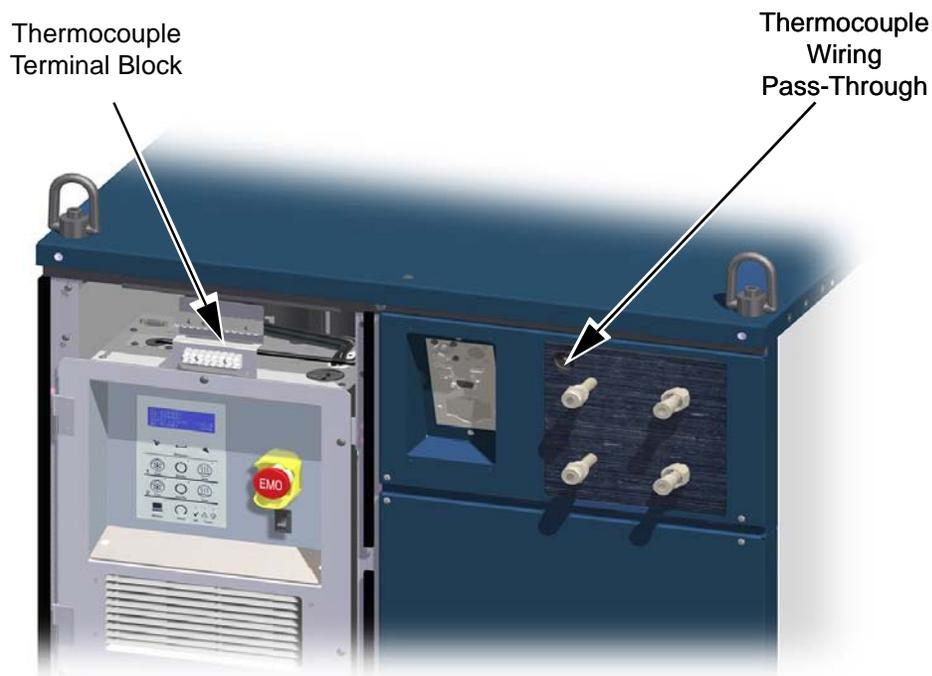

Figure 4-29: Location of Low Voltage Box and Thermocouple Terminals
1. Locate the low voltage box on the refrigeration unit and remove the terminal access cover. See Figure 4-29.
3. Locate the external thermocouple terminal block in the low voltage box. See Figure 4-29